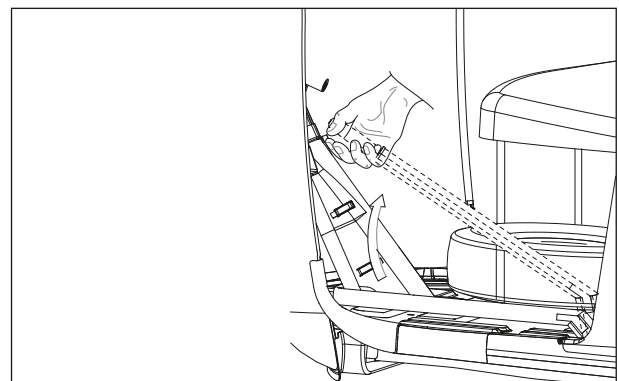

Fig. 2.22
- Switch 'OFF' ignition, open the throttle fully, and crank the engine five to six times with the hand starter, and note the highest reading as the compression pressure.(Fig. 2.22)